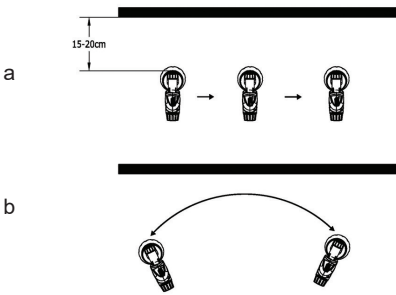

Fig. 1
- Correct (Fig. 1 a) Be sure to hold the spray gun at an even distance of approx. 2.5- 30 cm to the target object.
- Incorrect (Fig. 1 b) • Heavy spray fog build-up, uneven surface quality.